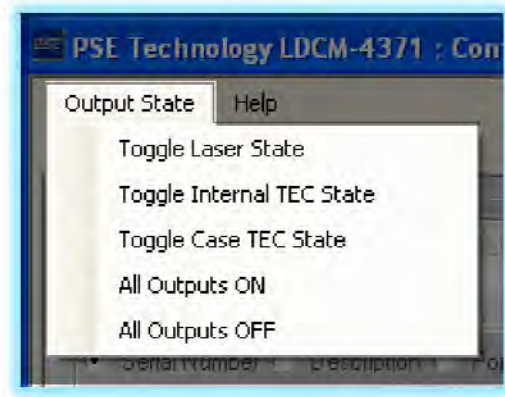

Figure 3.2: Output State Dropdown Menu Screenshot
1. **Output State:** As shown below in figure 3.2, within the first dropdown menu item the user has the choice to enable or disable the Laser Output, Internal TEC Output, or Case TEC Output independently or simultaneously.